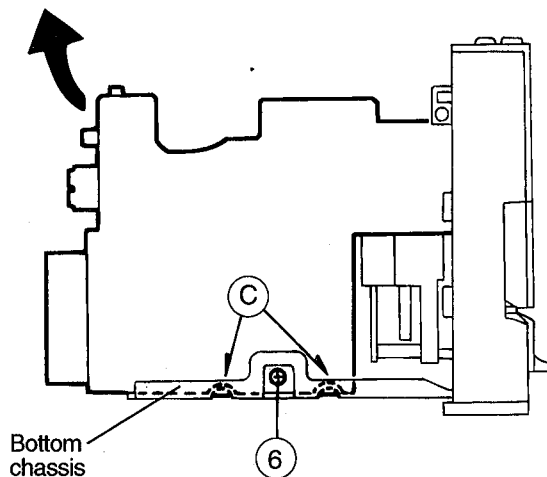

Fig. 10
7. Remove the one screw **⑥** retaining the power amplifier P.C. board. (See Fig. 10)
9. After removing the power amplifier P.C. board from the key way on the bottom chassis, take this P.C. board out while raising it in the arrow direction. (See Fig. 10)